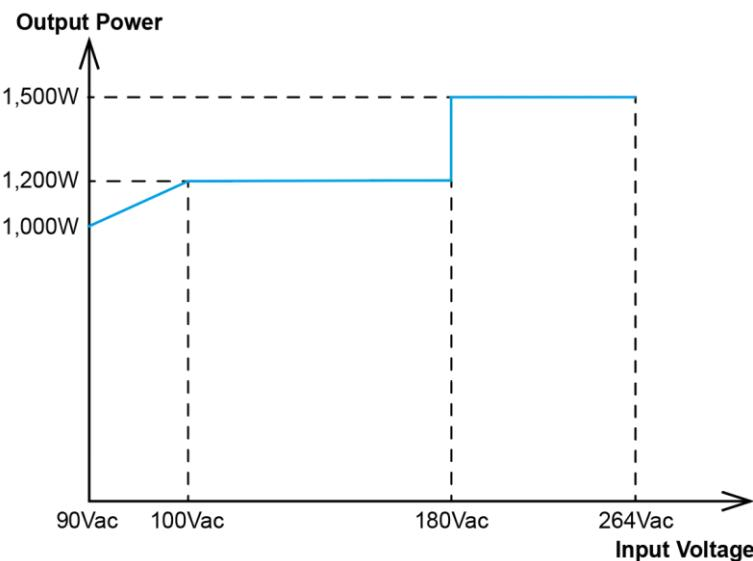

**Fig. 3 De-rating for Horizontal Mounting Orientation**
1. Power supply components may degrade, or be damaged, when the power supply is continuously used outside the shaded region, refer to the graph shown in Fig. 3 & Fig. 4.